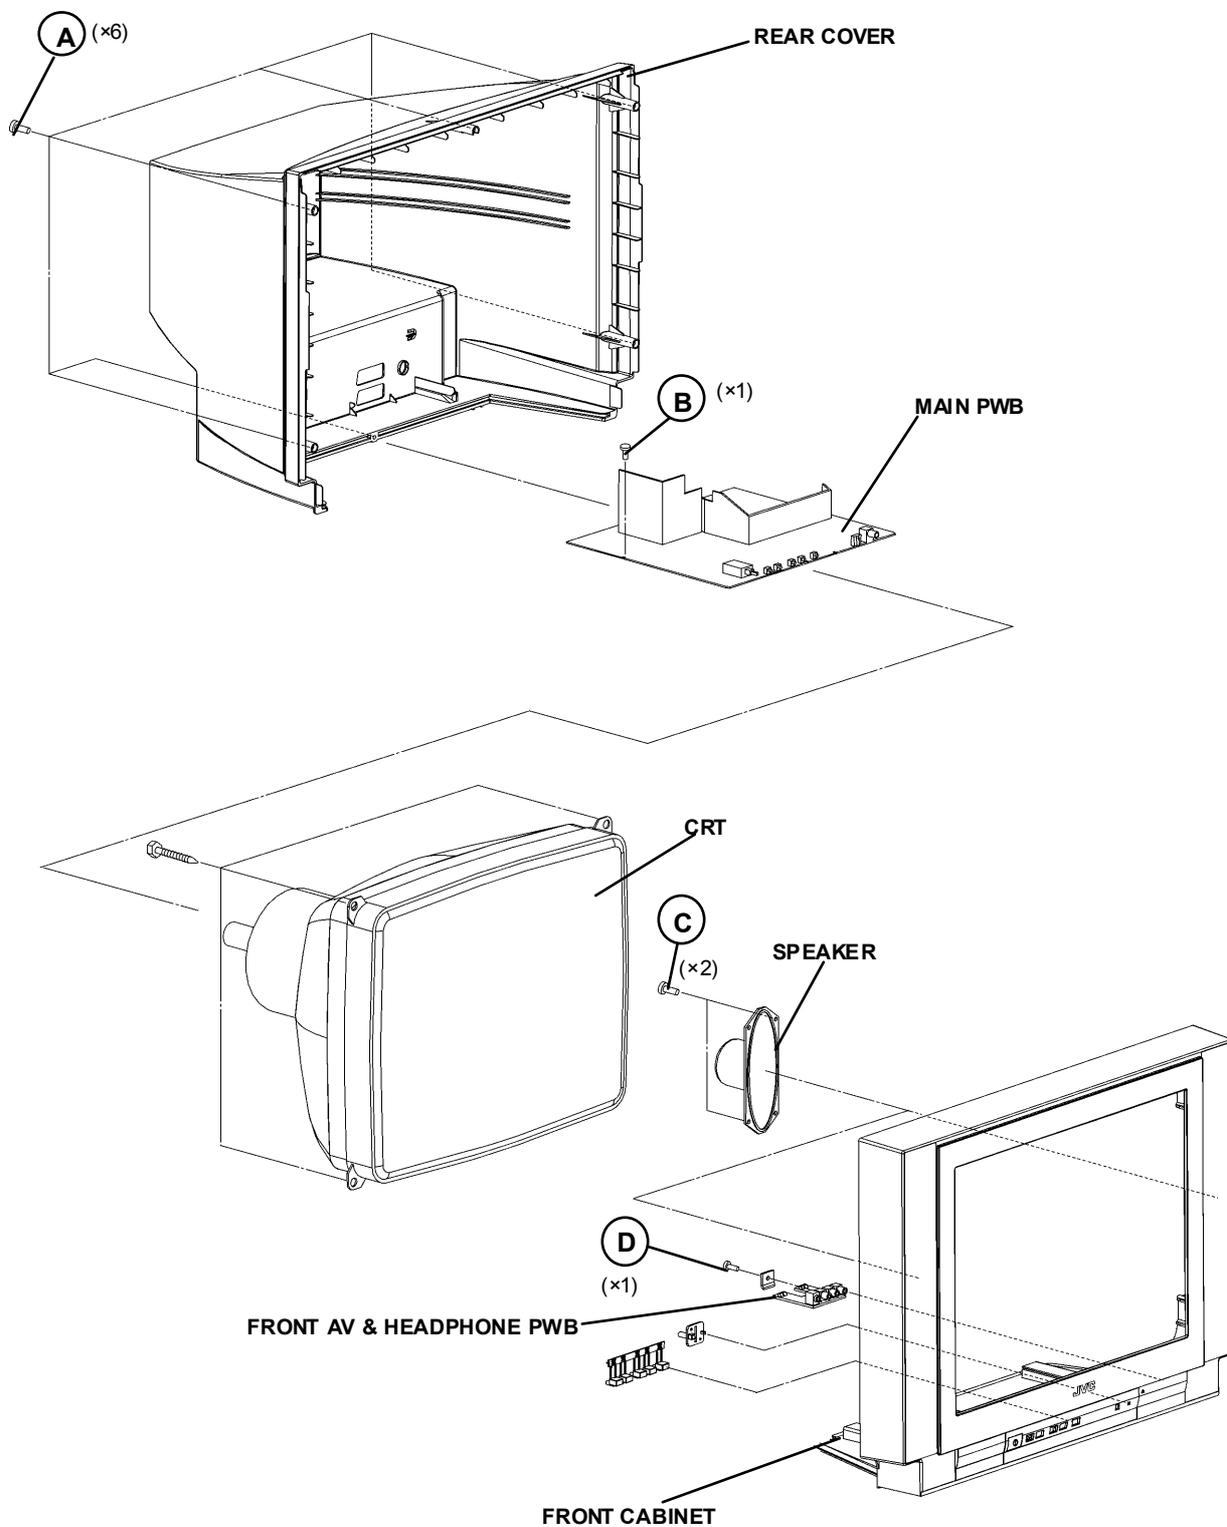

Fig. 1
2. Remove the 6 screws marked **A** as shown in the Fig. 1.
1. Remove the screw marked **B** as shown in the Fig.1.
1. Remove the 2 screws marked **C**, and remove speaker as shown in Fig. 1.